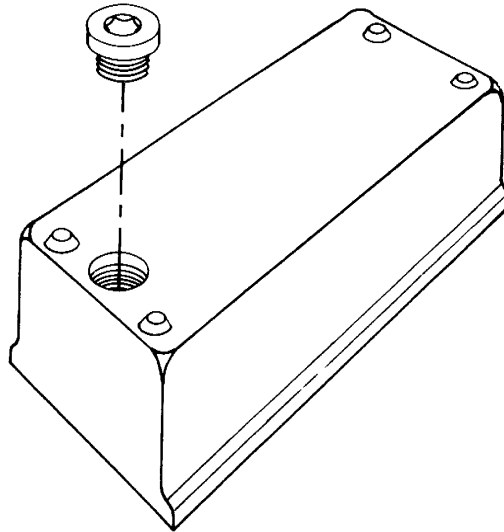

Figure 6-5. Location of the Drain/Fill Port
2. Using the 5/16 allen wrench, remove the oil plug from the bottom of the casting. Refer to Figure 6-5.